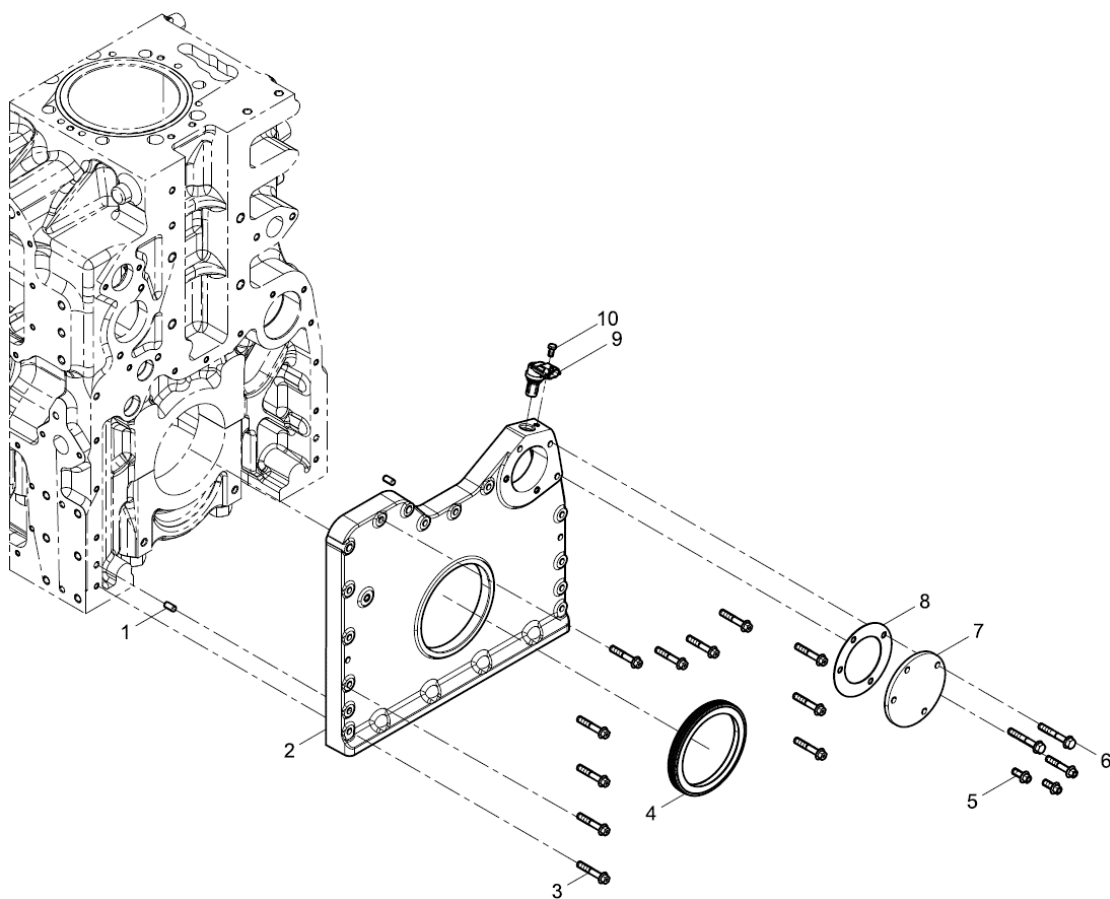

Figure 18. Front Cover Assembly
3. Remove the front cover bolts (Figure 18, Item 3).
4. Carefully remove the front cover (Figure 18, Item 2).
2. Apply PSI approved silicone sealant on the back of the front cover (Figure 18, Item 2).
3. Insert the two dowel pins (Figure 18, Item 1) if removed.
4. Apply Loctite 242 onto the threads of the bolts (Figure 18, Item 3).
- a. If removed oil the front oil seal (Figure 18, Item 4) and install using a front oil seal mounting tool.
5. Place the front cover (Figure 18, Item 2) onto the front of the cylinder block and torque the bolts (Figure 18, Items 3).